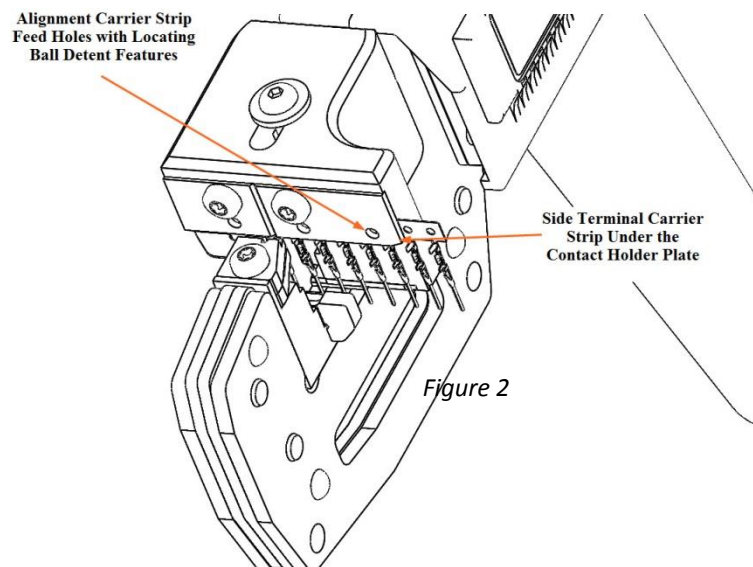

Figure 2
3. Slide the terminal carrier strip under the contact holder plate and align the carrier strip feed holes with the locating ball detent features. This tool is designed for a single carrier strip terminal (Figure 2).